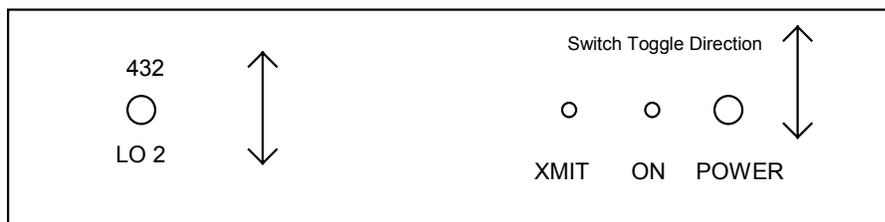

Figure 5 Switch / LED Mounting Positions
- 1 - Mount the POWER switch using the supplied hardware. Mounting of the switch should be so it is toggled per Figure 5.
- 2 -Mount the LO2-432 switch using the supplied hardware. Mounting of the switch should be so it is toggled per Figure 5.
- Place the "XMIT" LED in the wall mounting hole (see Figure 5) and place the previously formed lead on the ground plane circuit close to the edge of board and solder.